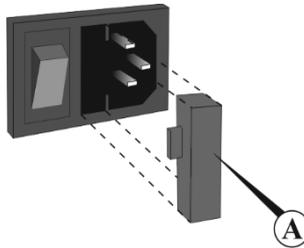

Figure 5. Fuse replacement
- Pull out the fuse holder by applying leverage in recess (fig. 5/A).